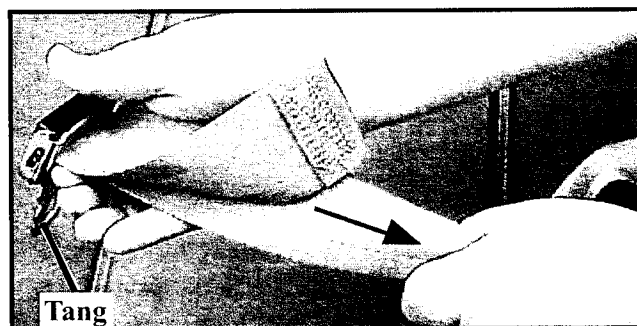

Figure 15 - Lengthening the Restraint
2. Grasp the tang and turn it perpendicular to the webbing, then pull the tang outward (away from the restraint anchorage) until the restraint is the desired length (Figure 15).